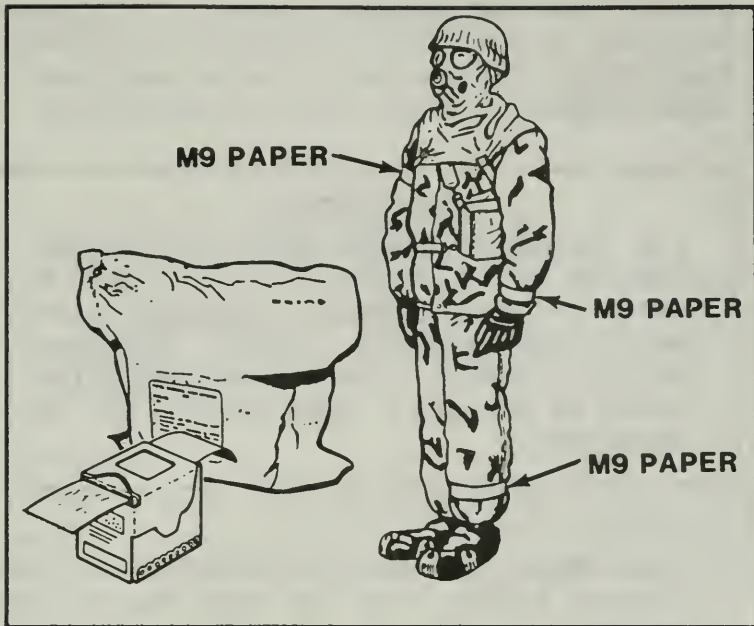

Figure 285. Attached M9 paper.
1. Attach M9 paper to individual MOPP gear (Figure 285).